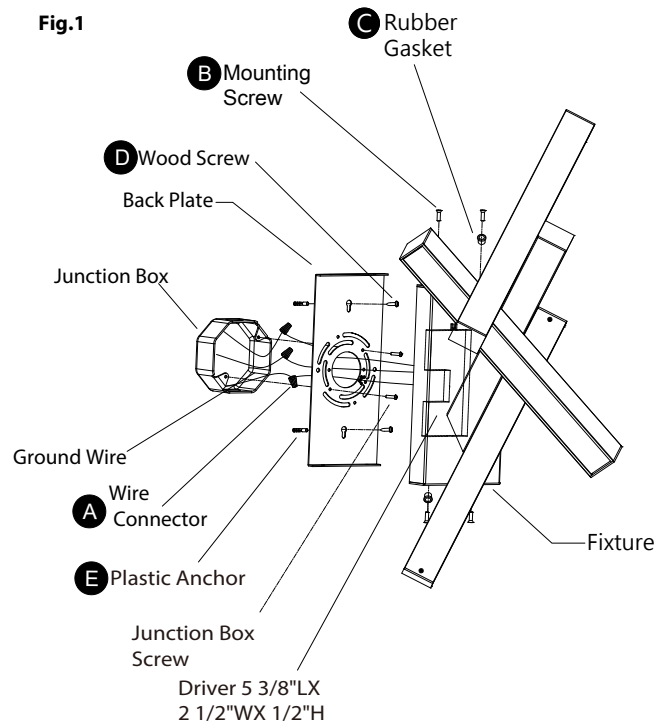

Fig. 2 Wiring
CONNECTING THE WIRES (Fig. 2)
5. Connect the driver's input wires to junction box wires as shown in (Fig. 2), making sure that all wire connectors (A) are secured. If your outlet box has a green or bare copper ground wire, connect the fixture's ground wire to it. Otherwise, connect the fixture's ground wire directly to the back plate using the screw provided. After wires are connected, tuck them carefully inside the junction box.